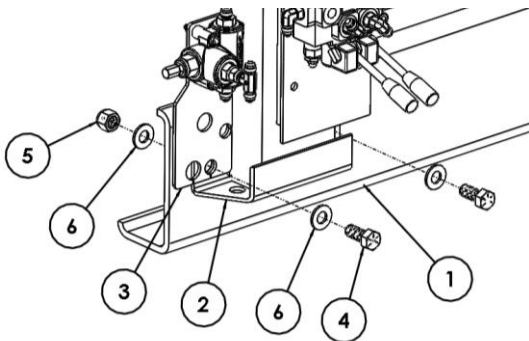

FIGURE 1.4: FULLY HYDRAULIC FRAME INSTALLATION
**NOTE:** For fully hydraulic models, position the relief valve assembly (3) as shown and insert hardware. For C-Channel frame installations, use the bottom two holes with 5/8" x 2" grade 8 bolts (4), nuts (5), and washers (6). See *Figure 1.4*.